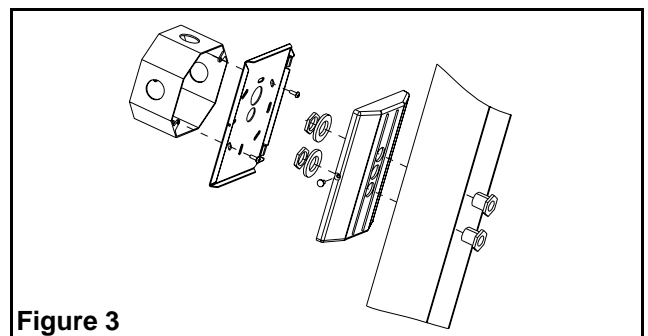

Figure 3
7. Mount the canopy(ies) to the back box using the hardware supplied. For each canopy, insert two threaded nipples through the back box knockouts, canopy and nylon washer. Thread a nut on each nipple; the nuts should be in the canopy (see fig. 3).